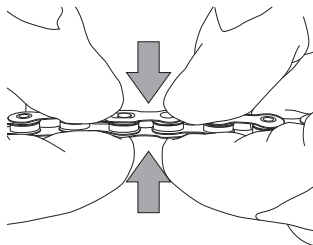

Fig.7
- Press the C-Link™ to make sure that the pins are fully inserted (Fig. 7).